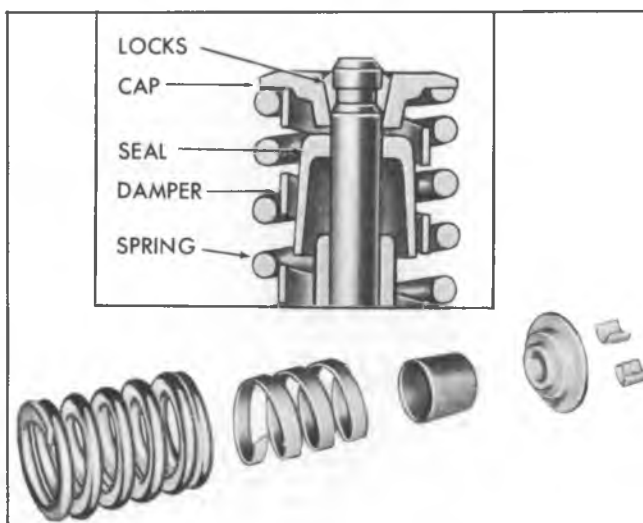

Fig. 26--Exhaust Valve Spring Installation ("Mark IV V8")
- b. Set the valve spring (with damper), and valve cap in place (fig. 26).